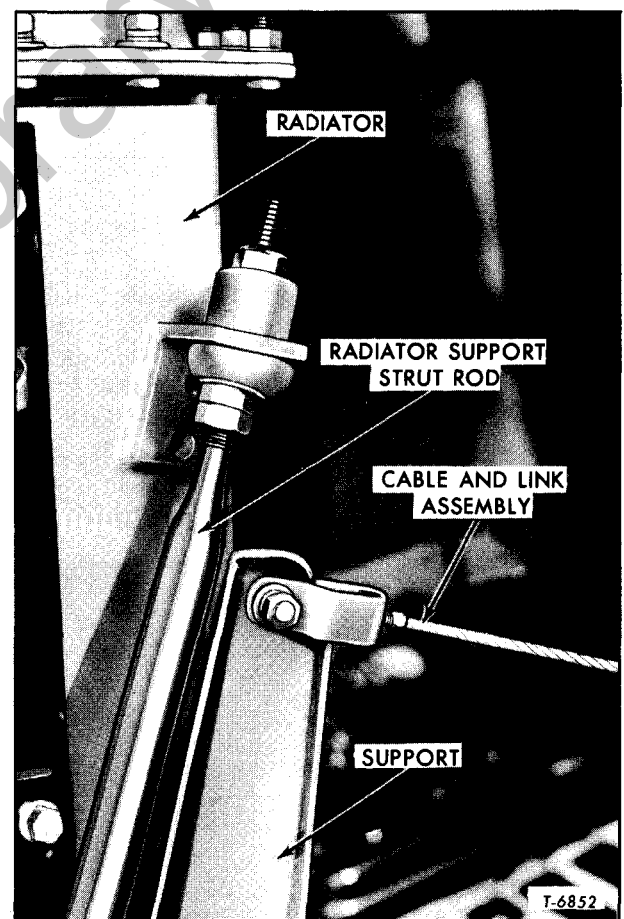

Figure 11—Hood Stop Cable Clevis Installation
4. Position assistant to support weight at front center of hood, then disconnect the hood stop cable special bolts at radiator support side brackets. (See fig. 11.)